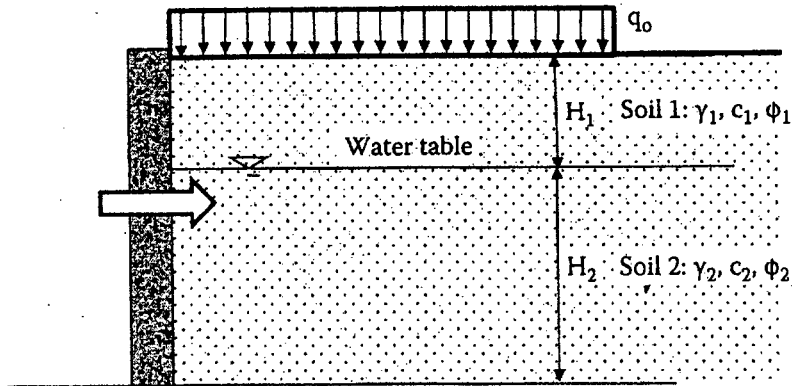

Fig. 2 Illustration for Question No. 8
8. Figure below (Fig. 2) shows a vertical retaining wall with a horizontal backfill, which may fail in passive mode. Compute and draw all lateral pressures that may act on the wall. Compute also the total lateral thrust and the point of application of the resultant force.